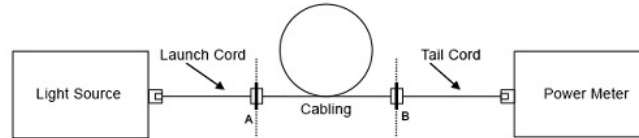
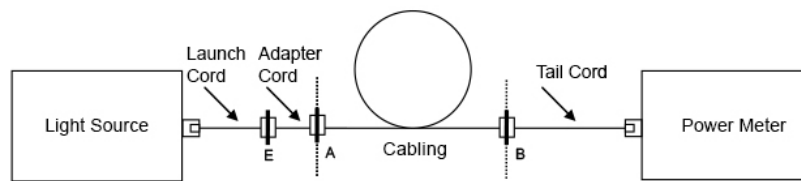

Figure 6a. Measure attenuation for case 1 (plug-adapter and plug on cabling ends)
Figure 6b. Measure attenuation for case 2 (both ends of cabling are socketed)
b. Make the measurement and compare to the reference measurement (see Figure 6a and Figure 6b).
c. For case 2, an adapter cord becomes part of the launch cord (see Figure 6b)